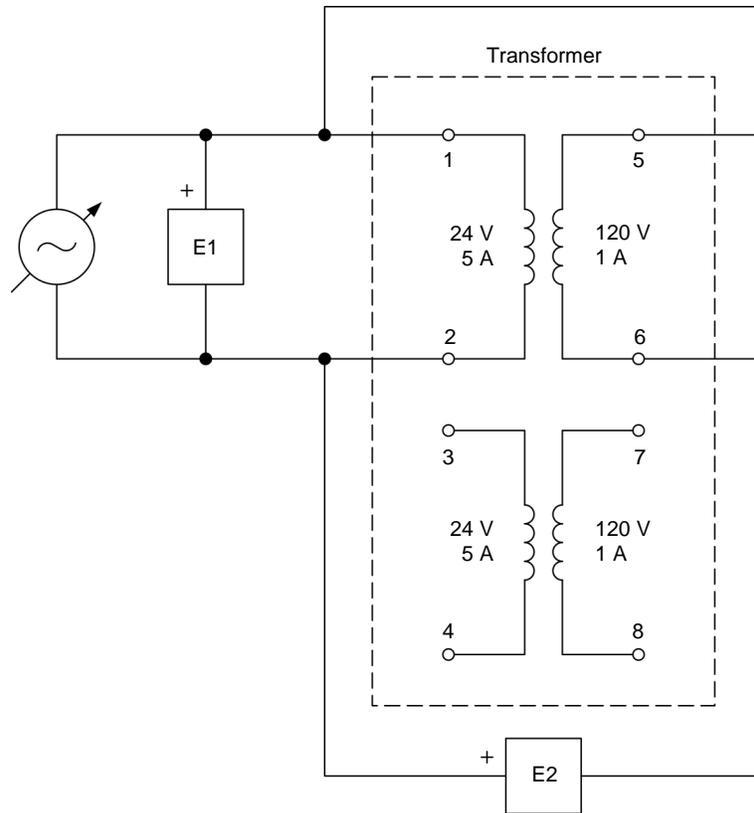

Figure 17. Circuit for determining transformer winding polarity using a voltmeter.
- 19.** Connect the equipment as shown in Figure 17. In this circuit, one of the secondary windings (winding 5-6) of the power transformer is connected in series with the primary winding (winding 1-2).